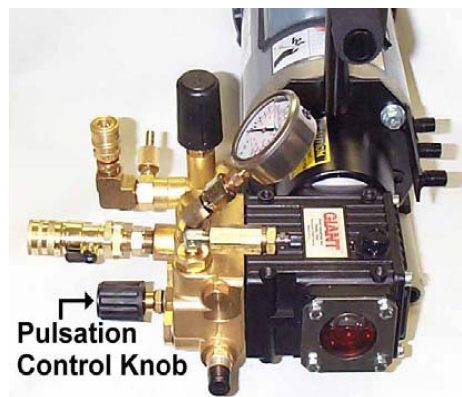

Fig. 7
13. The "Mini Jet" comes equipped with a Pulsator (see Fig. 7.) The purpose of the pulsation is to assist in moving the water jet hose through the pipe. The pulsator unit operates by creating a vibrating or pulsing action on the hose using pressurized water. The pulsing or vibration action reduces hose drag in a pipe by reducing surface contact of the hose on the pipe and, with the assistance of the water jet nozzle, causes the hose to propel itself into the pipe farther and faster.